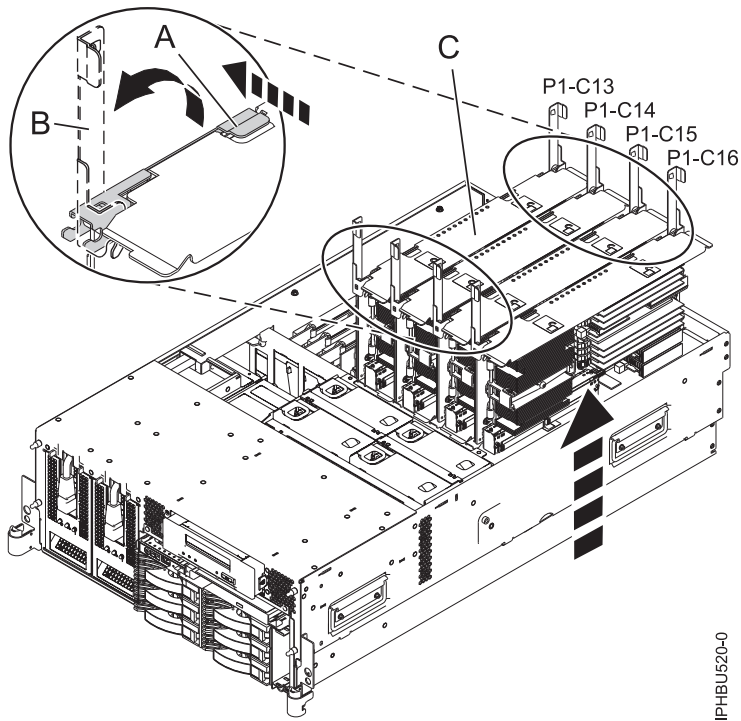
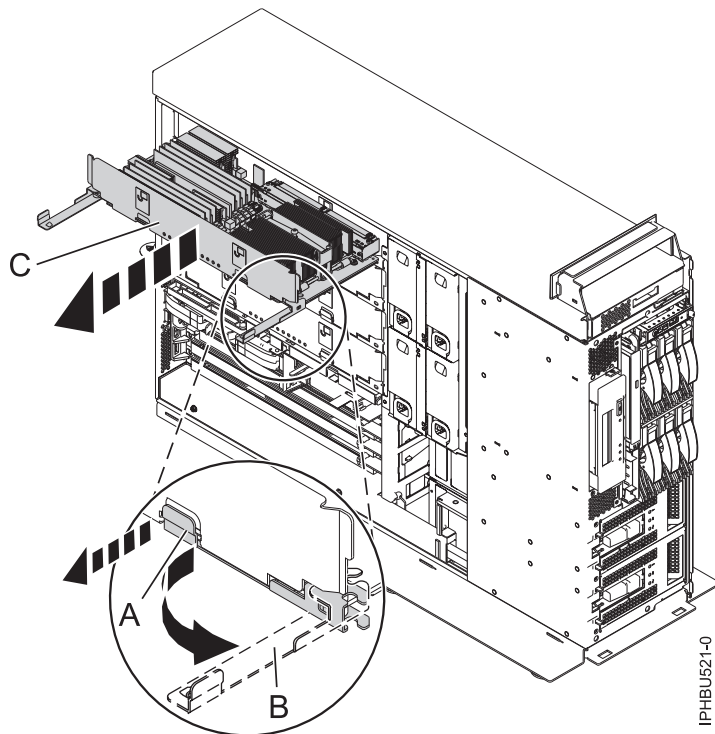

Figure 5. Removing system processor assembly from the backplane assembly in a rack-mounted model
Figure 6. Removing system processor assembly from the backplane assembly in a stand-alone model
7. As shown in Figure 5 on page 10 and Figure 6 on page 10, unlock the latches **(A)** on the system processor assembly. Using both hands, grasp the unlocked latches **(B)** to pull the system processor